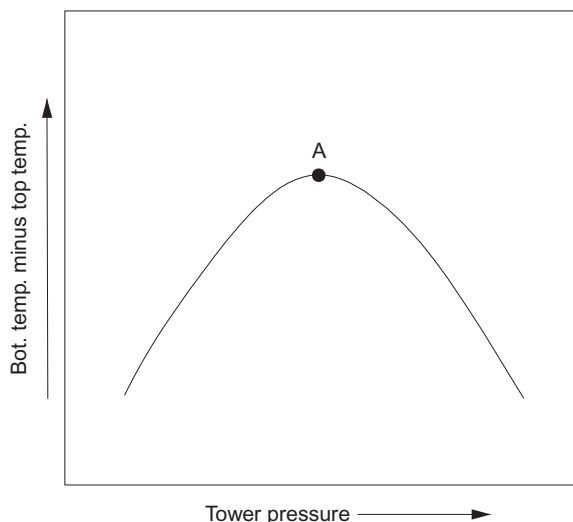

FIG. 48.3 Point A represents the optimum tower pressure.
- At a constant reflux rate, lower the tower pressure consistent with maximizing the temperature difference between the bottom and the tower top temperatures (Fig. 48.3).